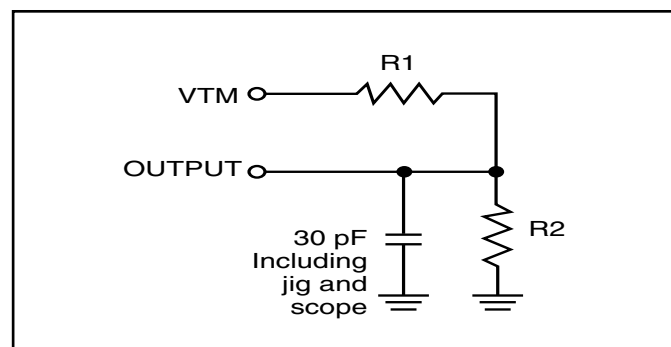

Figure 1.
- Test conditions assume signal transition times of 5 ns or less, timing reference levels of 0.9V/1.5V, input pulse levels of 0.4 to $V_{DD}-0.2V/V_{DD}-0.3V$ and output loading specified in Figure 1.